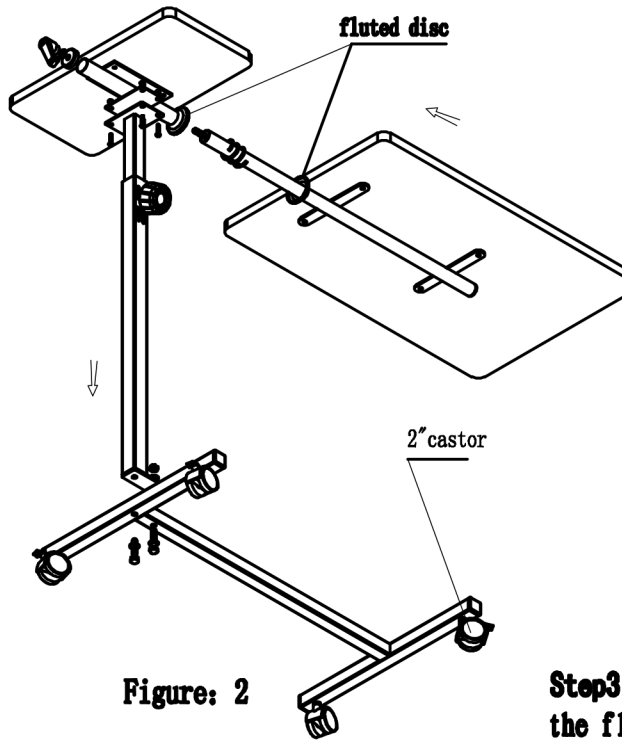

Figure: 2
Step2: As shown in Figure 2, in the direction of the arrow, installed the assemblies, tighten the screws.